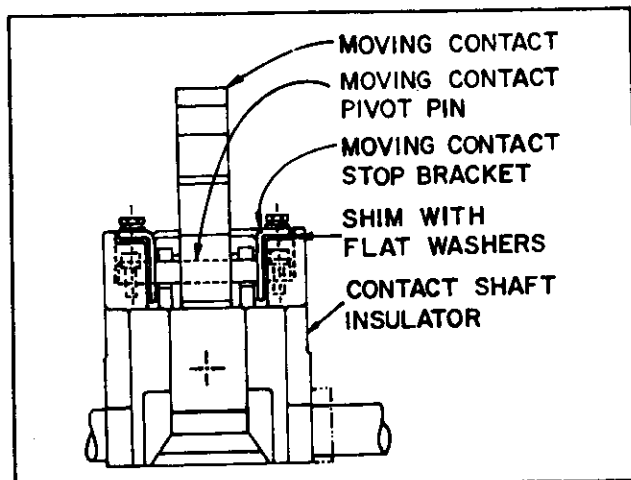

Figure 6
4. In the event initial contact forces or contact touch points are not within allowable limits, adjustment may be made by increasing or decreasing the number of flat washers under the stop bracket mounting lugs as shown in Figure 6.